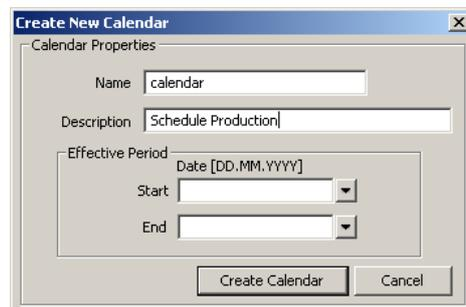

Figure 121: Create New Calendar dialog box.
3. In the Create New Calendar dialog box (as shown in Figure 121) enter Name and Description of the calendar. Correct the effective period if necessary.